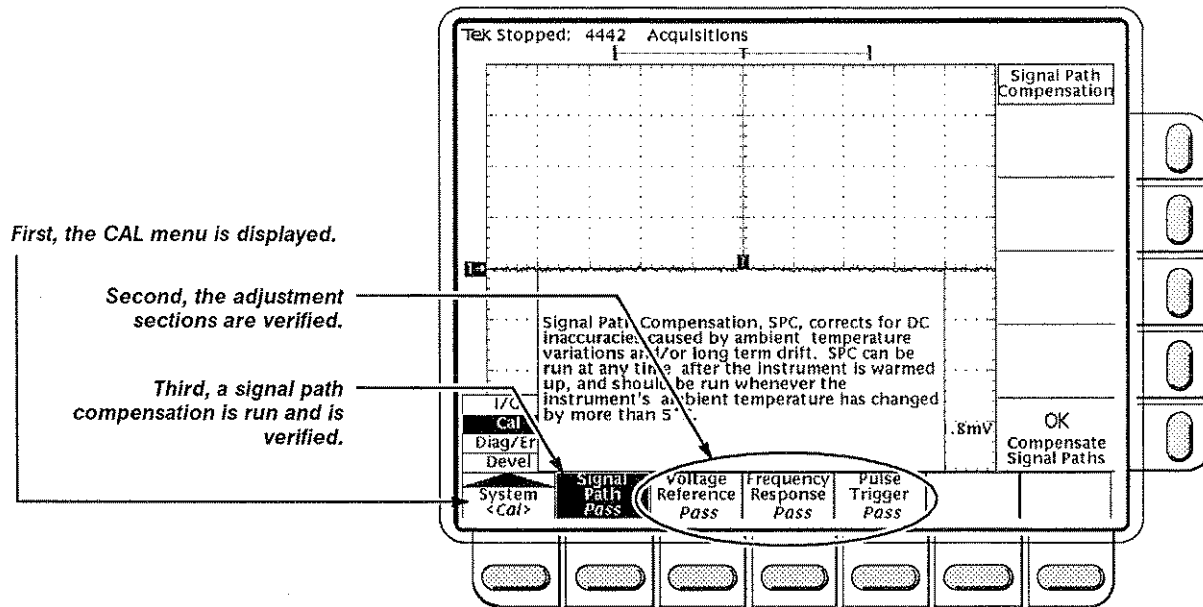

Figure A-2: Verifying Adjustments and Signal-Path Compensation
- Verify that the word **Pass** appears in the main menu under the following menu labels: **Voltage Reference**, **Frequency Response**, and **Pulse Trigger**. (See Figure A-2.)
- h. *Confirm signal-path compensation returns passed status:* Verify the word *Pass* appears under **Signal Path** in the main menu. (See Figure A-2.)